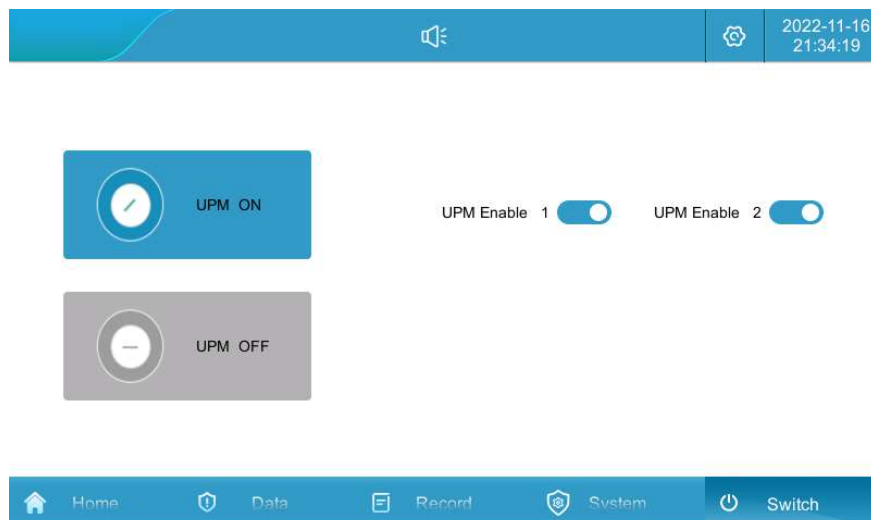

Figure 5.2 Switching Interface
- 4、 Click "Switch" to enter the current switching interface, select all the modules/UPM to enable (you can also turn on some of the modules according to the actual need), click the "UPM ON" button, the normal turn-on time of about 2 minutes, as shown in Figure 5.2.